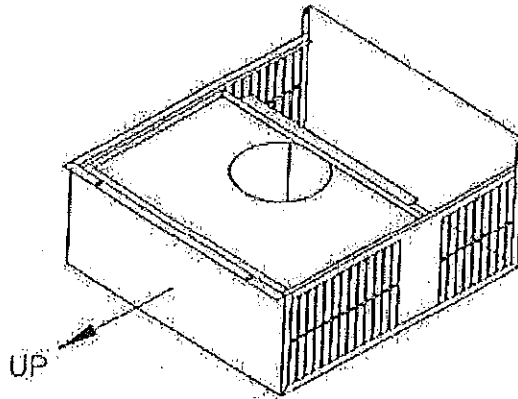

Fig. 3 – Terminal with Air Duct Removed
5. IMPORTANT - the inner components of the terminal are now free to move within the terminal. Before moving the terminal, note and mark which end the components are in. This becomes the TOP of the terminal on assembly into the frame (see fig 3)